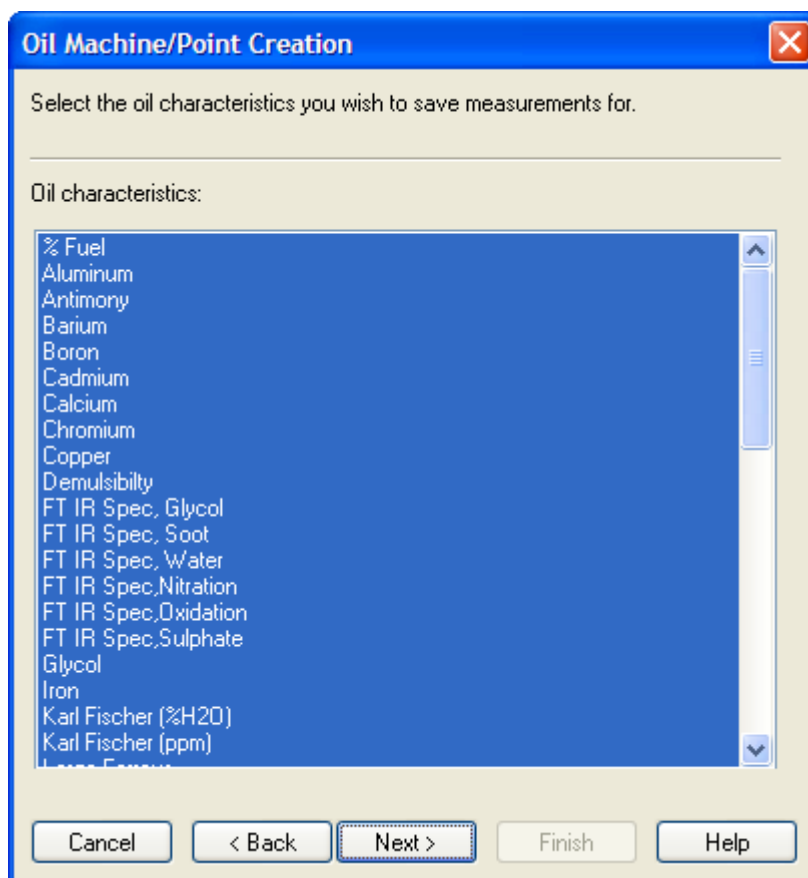

Figure 8. Oil characteristics
11. Choose the desired **Oil characteristics** or else leave all selected, and then press [Next]. [Figure 8]